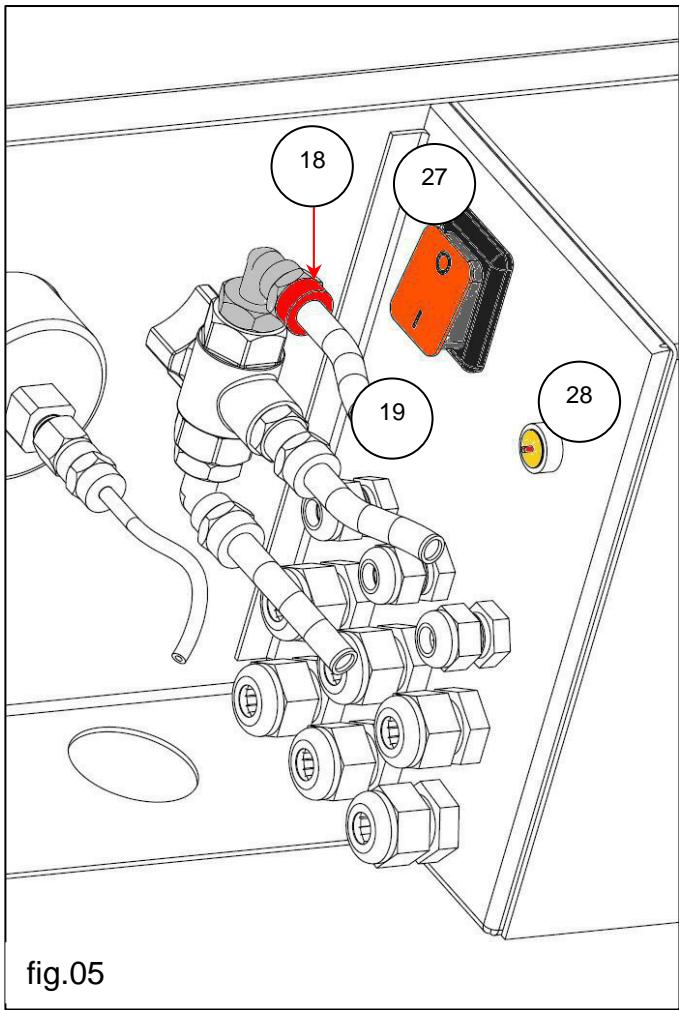

fig.05
- If the machine is stored at temperature below to zero (<0°C)remove the plastic cover by the screw 13 (fig.03), empty the water tank removing the hose 19 (fig.05) (apply a small pressure on the part 18 (fig.05)); empty the water float tank and the boiler by the valve 7 (fig.02). While keeping the above valve open turn, the switch 1 (fig.01) onto and switch 2 (fig.01) onto or for 10 seconds to empty the water pump too. When no more water is flowing from the valve 7 (fig.02) close all the valves and reposition the switches 1 (fig.01) and 2 (fig.01) on .Finally, put the machine cover on the machine again.
- b. empty the water tank: take off the hose 19 (fig.05) by little pressure and the fixation bolt 18 (fig.05). empty the boiler by the discharge valve 7 (fig.02) and open the gun to get the air come into the boiler. After these 2 operations above, reconnect the hose 19 (fig.05) and close the valve 7 (fig.02);
- e. Connect ASTRA STEAMER to electric mains. Turn switch 27 (fig.05) ON, turn switch 2 on  and switch 3 on  . Rotate main switch1 on  and keep this configuration until the descaling liquid starts to flow out of the steam hose, now reposition the switch 1 on  .